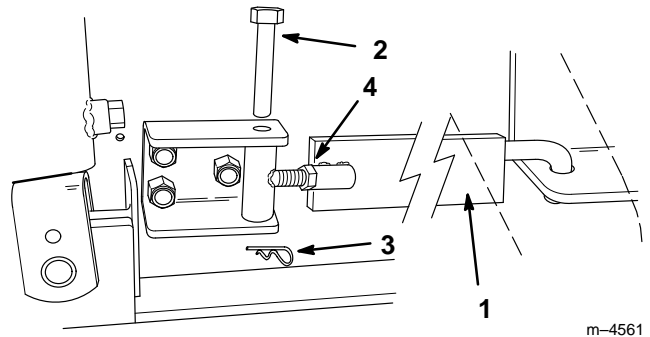

Figure 10
15. Install the side bars on each side as illustrated in Figure 10.
16. If the bars do not fit snugly, remove them, loosen the jam nut, and thread the compound side bar together or apart as needed to ensure that they fit as tight as possible (Fig. 10). Tighten the jam nut when finished.